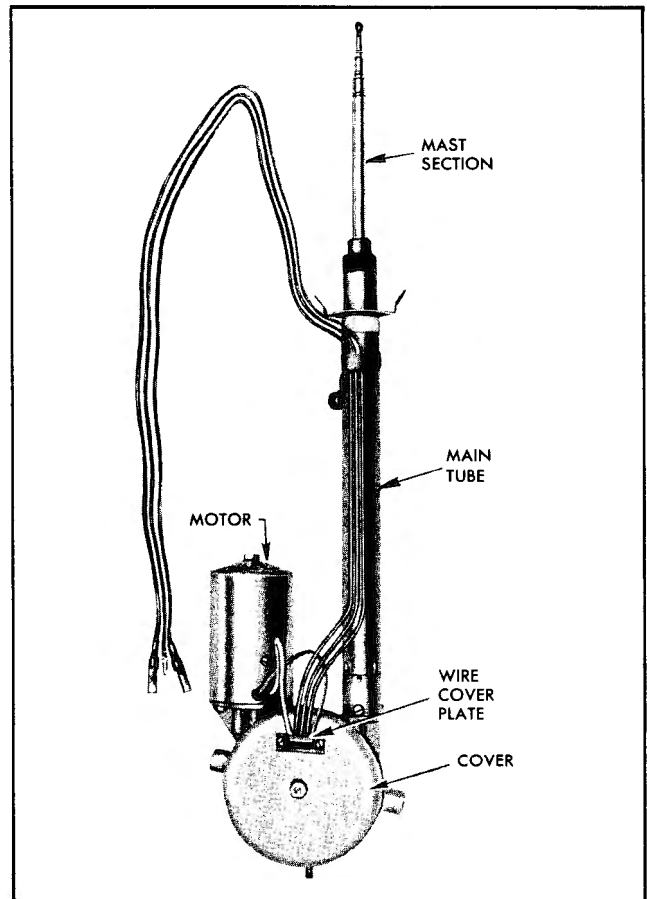

Fig. 14-2 Casco Automatic Antenna
1. Remove two screws and wire cover plate (Fig. 14-2).
2. Remove nut and lockwasher from cover and remove cover (Fig. 14-2).